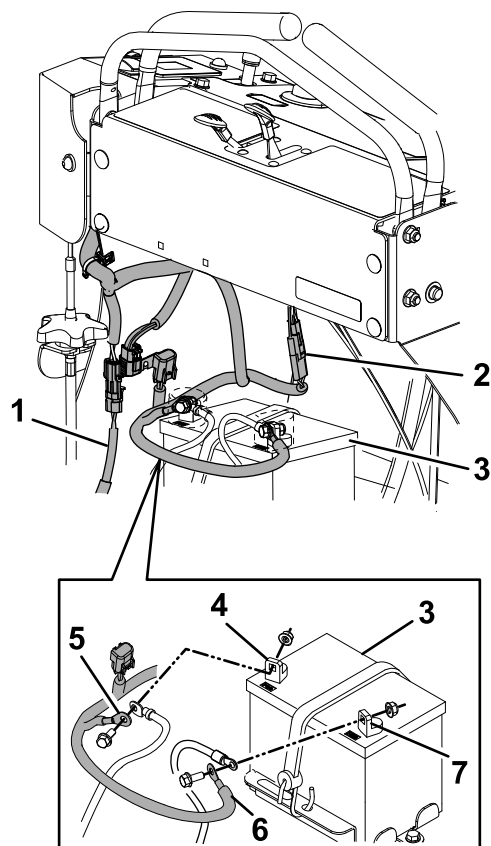

Figure 7
4. Remove the cap from the accessory wire on the main harness and plug into the spreader accessory harness as shown in Figure 7.
5. Remove and retain the nut and screw from the positive terminal on the battery. Install the accessory harness positive cable (second to last terminal ring—see Figure 7) and the positive cable of the main harness to the front of the positive battery terminal and secure with the nut and screw. Repeat for negative battery cable.